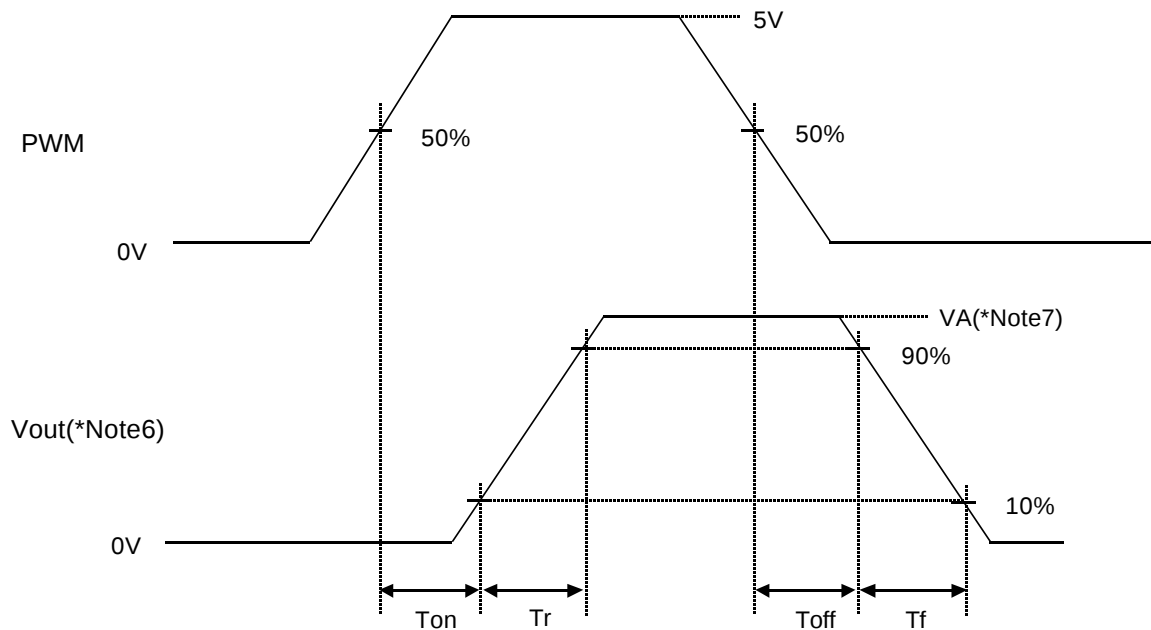

Fig.2 Gate Drive Output Time Characteristics Definition
* Note5 : Please refer to the Fig.2.